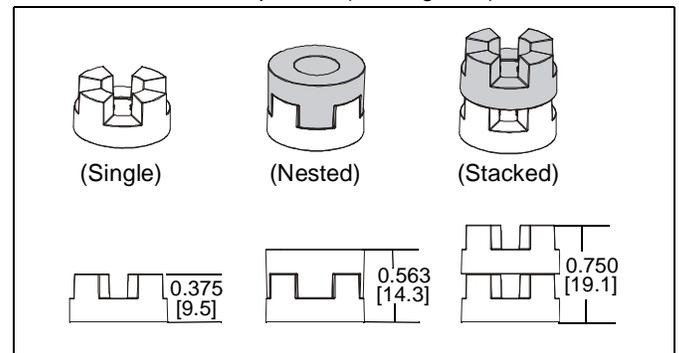

Figure 7
**IMPORTANT ! :** The M8 screws do **NOT** require a washer. Use the universal washer (N) only with M4, M5 and M6 screws.
**NOTE:** The nesting spacers (M) may be used separately, or put two together in different configurations to create different size spacers. (See Figure 7)